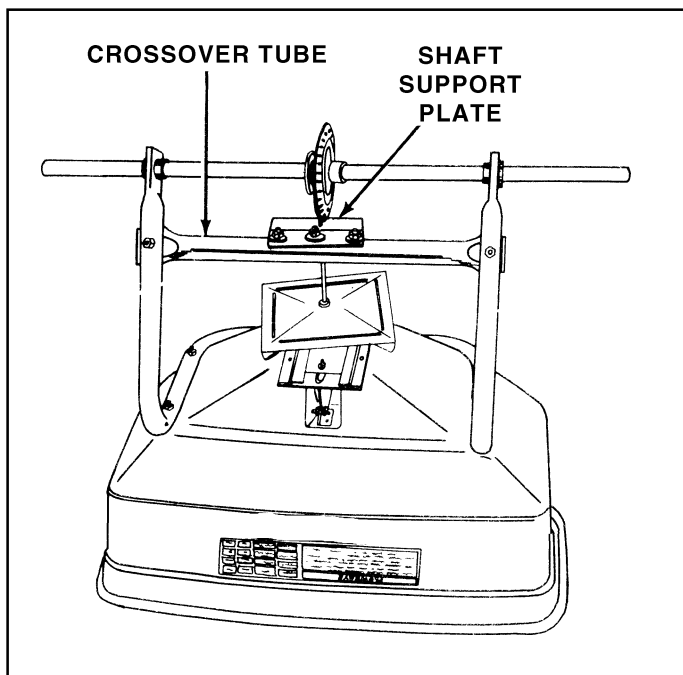

FIGURE 1
1. Turn the spreader upside down as shown in figure 1.